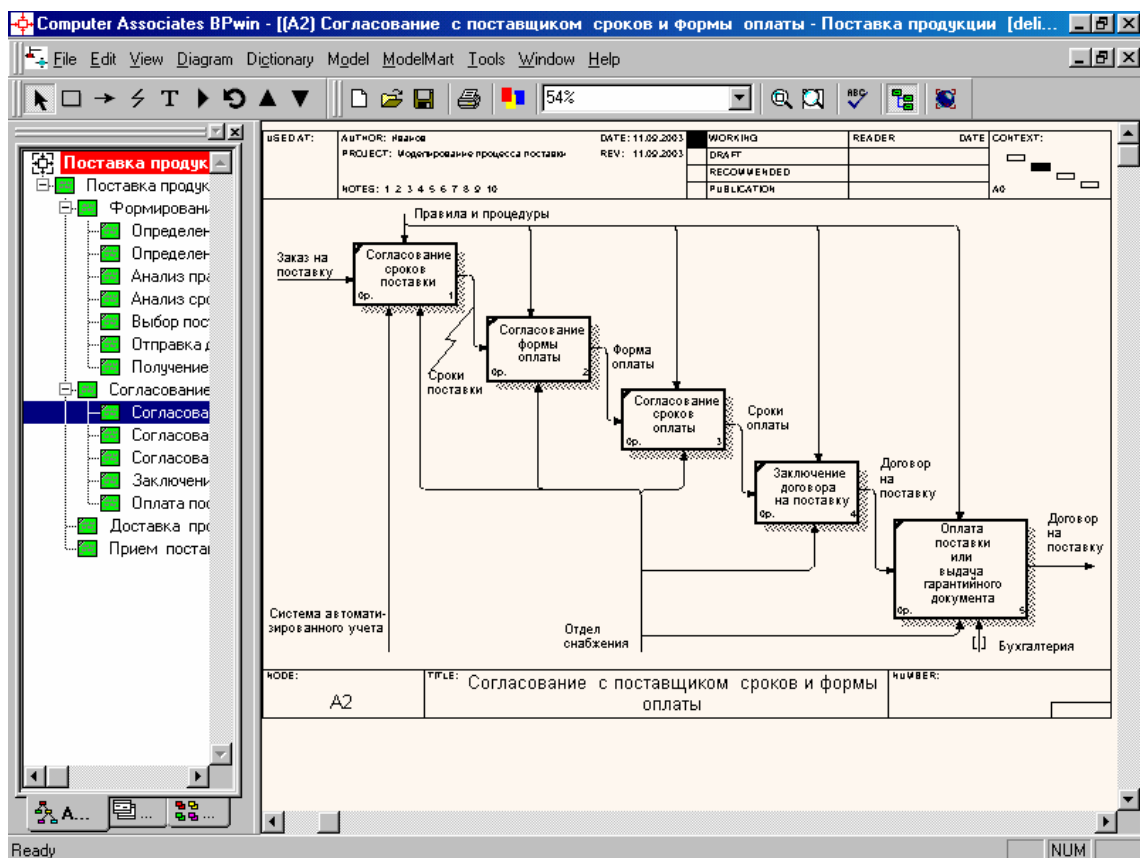

Figure 1.13
4. Draw an arrow on the diagram, as shown in Figure 1.13.